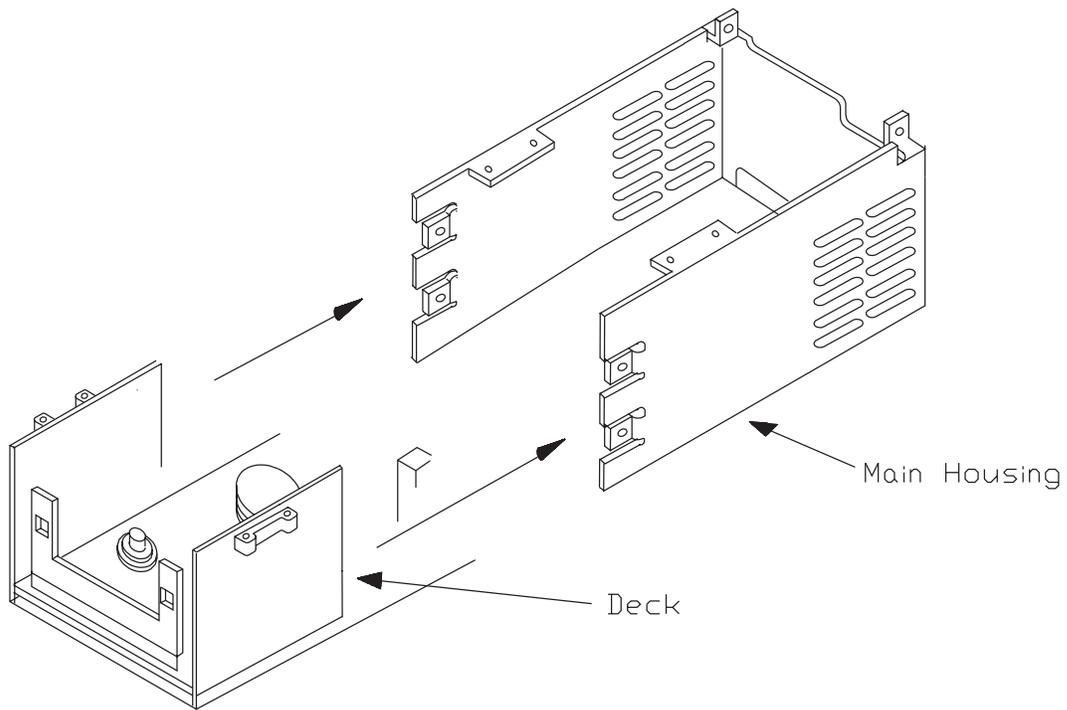

Figure 15-1
3. Push the main housing away from the rest of the EXB-8200 until it is completely separate from the deck and cards, as shown in Figure 15-1.